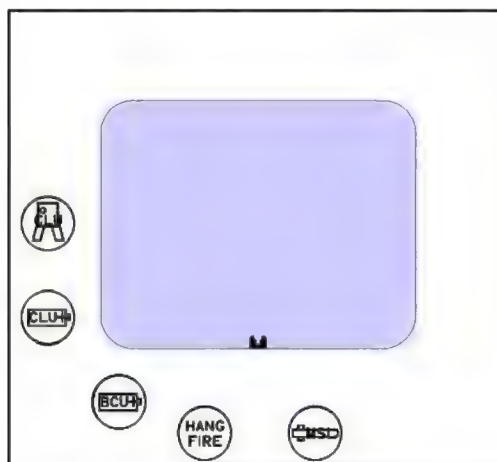

Figure 2-10. Status indicator—red.
c. **Red Status Indicators.** Five of the status indicators are red (Figure 2-10). There are two types of red indicators. A flashing red indicator warns the gunner of an emergency condition where action must be taken. A solid red indicator alerts the gunner the Javelin is inoperative and a successful missile launch is not possible until corrective action is taken.